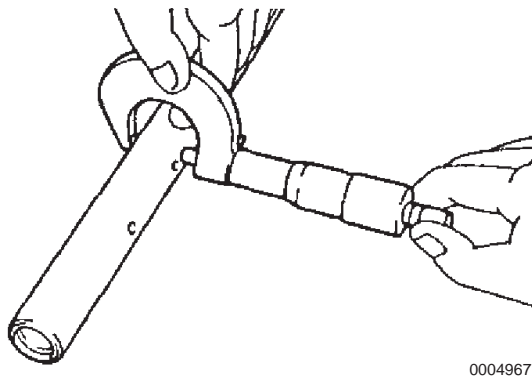

Figure 5-42
4. Measure the rocker arm shaft diameter using a micrometer (**Figure 5-42**).